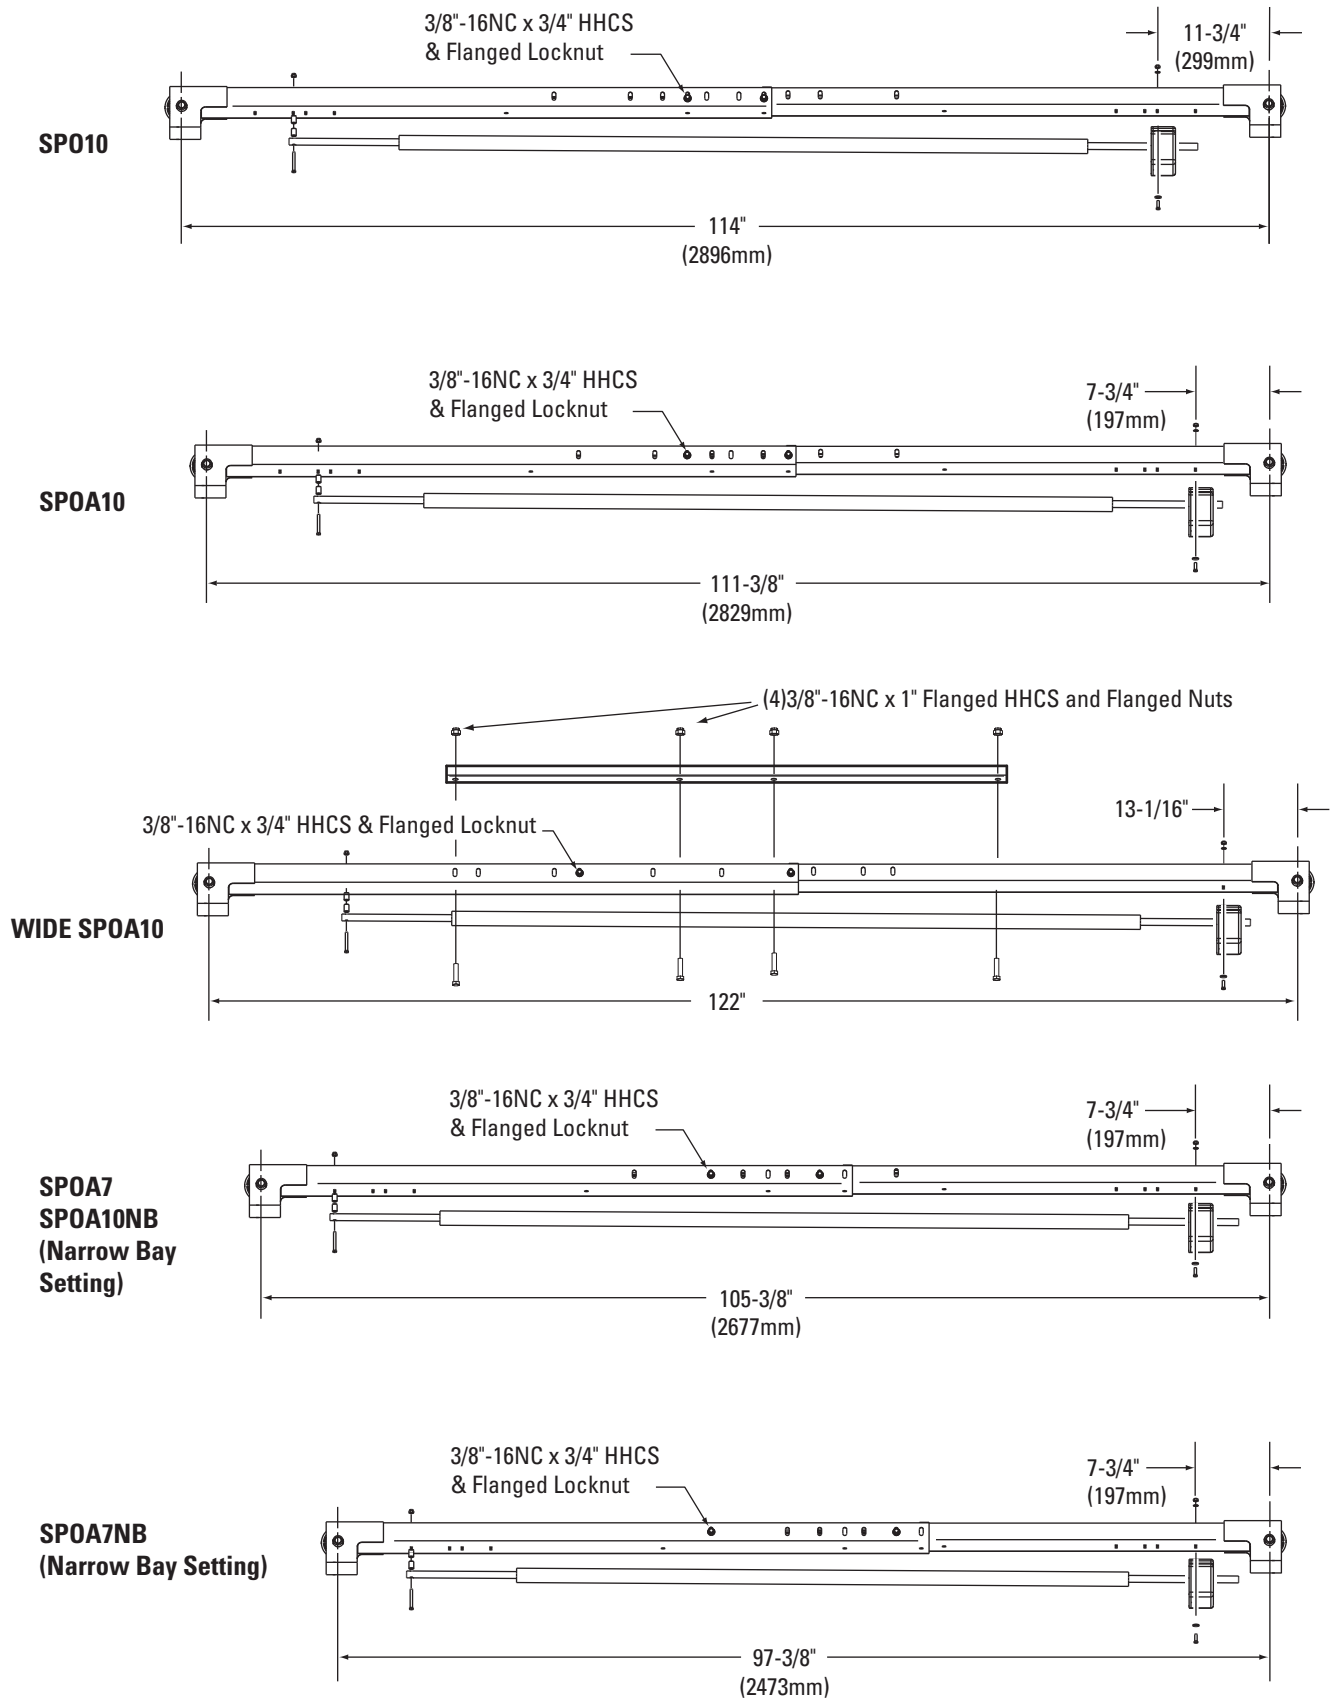

Fig. 6
7a. Overhead Assembly: Fig. 6: Adjust overhead to appropriate dimension. Install (4) 3/8"-16NC x 3/4" HHCS & 3/8"-16NC Flanged Locknuts, do not tighten.
For single phase and three phase lifts with push button control box: Insert 1/4"-20NC x 2-3/4" HHCS through pivot hole in end of switch bar. Insert opposite end of bar through slot in switch mounting bracket. Then secure HHCS and Switch Bar to overhead as shown, Fig. 6 and 6a, using (2) 3/4" (19mm) spacers and 1/4"-20NC Locknut. Tighten Hex bolt leaving 1/16" (1.6mm) gap between the spacer and the overhead assembly.
8. Overhead Installation: Install overhead assembly to Mounting Bracket with (2) 3/8"-16NC x 3/4" Flanged HHCS, (2) 3/8"-16NC Flanged Serrated Locknut, Fig. 6. Use middle holes for SPO9/SPO10 and outside holes (marked L for Left and R for Right) for SPOA7/SPOA9/SPOA10NB/SPOA10. Tighten bolts at center of overhead assembly.